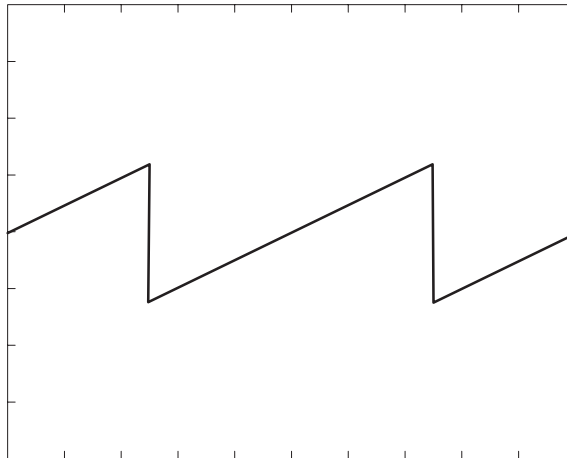

Figure 4–32: Waveform output when SW2 is closed
- a. Verify that the waveform being displayed on the oscilloscope is about the same amplitude as shown in Figure 4–30.
- b. Verify that the oscilloscope displays the waveform as shown in Figure 4–32.
- d. Verify that the oscilloscope displays the waveform shown in Figure 4–30.
- b. Verify that the oscilloscope displays the waveform shown in Figure 4–33.